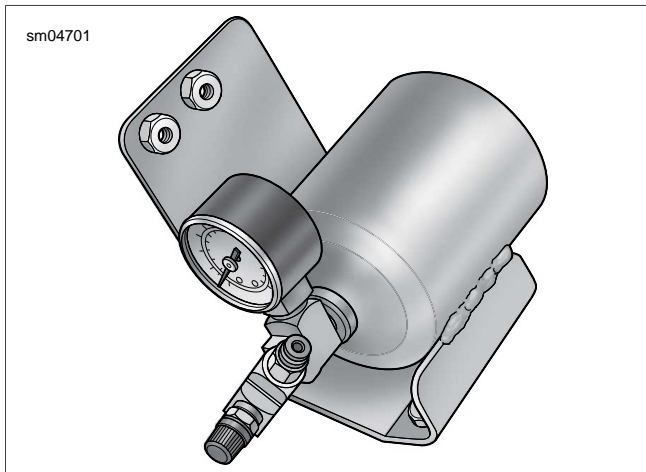

Figure 2-8. Air Seat Reservoir Assembly
- Remove two Phillips screws from license plate bracket to free rear of air reservoir bracket. Be sure to hold reservoir as the last screw is removed or damage to fender paint can occur if assembly is dropped. See Figure 2-8.
- Reassemble fittings and/or air pressure gauge onto air reservoir, if removed. Orient parts as shown in Figure 2-8. Apply PIPE SEALANT WITH TEFLON to threads before assembly.